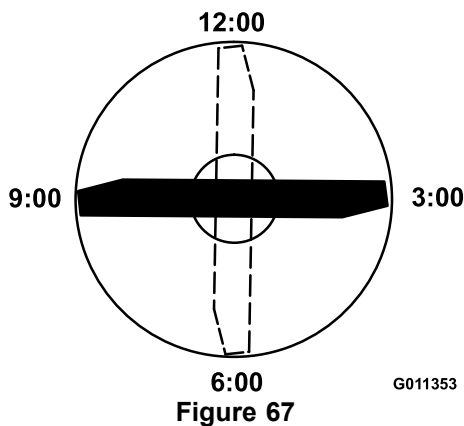

Figure 67
4. Position the cutting edge of the marked end of the blade at 12 o'clock (straight ahead in the direction of mowing) (Figure 67) and measure height from table to cutting edge of blade.
5. Rotate the marked end of the blade to the 3 and 9 o'clock positions (Figure 67) and measure the heights.